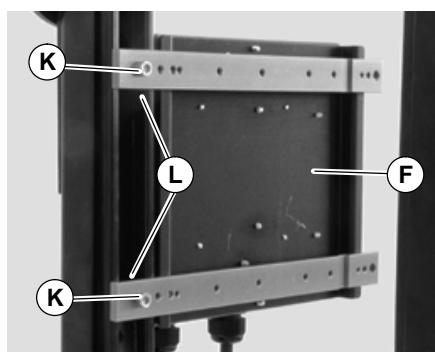

Figure 20
3. Attach controller (F of Figure 20) to Spring Nuts (L) with screws (K).